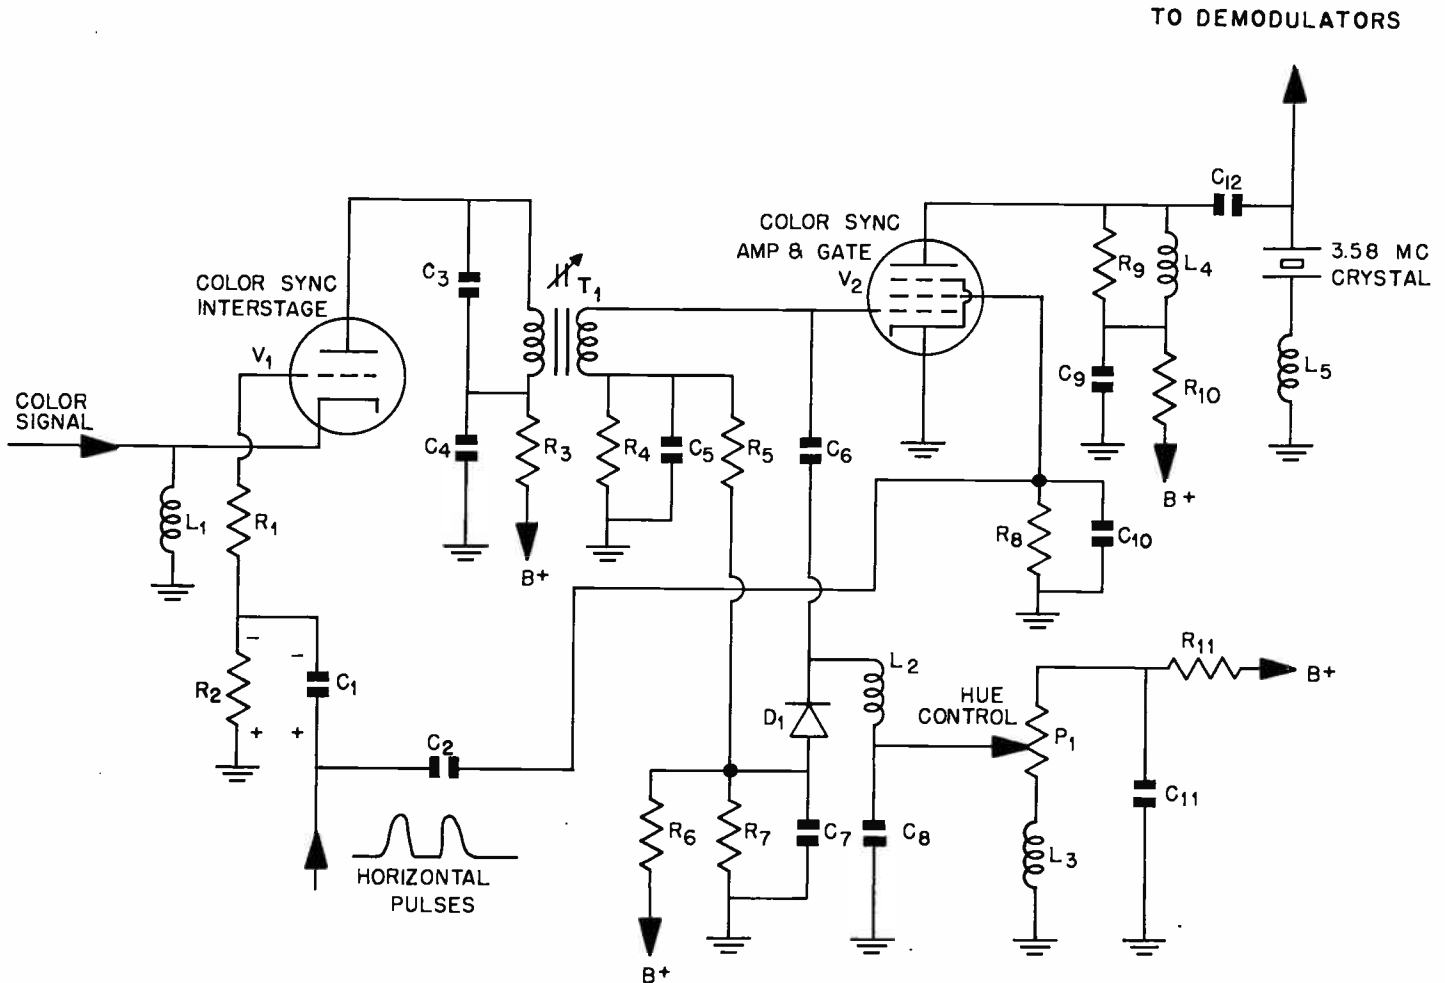

Fig. 21. Two-stage color burst amplifier and ringing circuit supplies the continuous wave signal to the demodulators.
A schematic diagram of a two-stage color burst amplifier is shown in Fig. 21. Notice that in this circuit the complete color signal is fed to the cathode of the first stage, V_1 . At the same time, strong positive horizontal pulses are fed through C_1 and R_1 to the grid of V_1 . These positive pulses, which occur during the retrace interval, will cause the grid of the tube to draw a high current and charge the capacitor C_1 with the polarity shown. C_1 will discharge through R_2 developing a voltage across the resistor with the polarity shown. The high negative voltage developed across R_2 will keep the tube cut off. The only time the tube will conduct is when the high amplitude horizontal pulses are present. Since this occurs during the horizontal retrace interval and this is when the color burst signal is transmitted, the color signal is the only part of the color signal that will get through the amplifier stage.
- (x) What is the purpose of the network consisting of C_6 , L_2 , P_1 , L_3 , C_8 , C_7 and D_1 in the circuit shown in Fig. 21?
Fig. 21 is an example of a ringing circuit used in a color TV receiver. You will remember that the color video signal is developed across L_1 and applied to the cathode of V_1 . The gated color sync interstage, V_1 , is normally biased cutoff by grid leak bias. Large positive horizontal pulses are coupled through C_1 and R_1 to the grid of V_1 , bringing the tube into conduction during the horizontal retrace interval when the color burst is present on the cathode.
The hue control, located in the grid circuit of V_2 in Fig. 21, permits small changes in the phase of the color burst signal applied to the control grid of V_2 . Changing the setting of the hue control shifts the phase of the 3.58-mc burst signal applied to the grid of V_2 . This phase-shifted signal is amplified by V_2 and coupled through C_{12} to the crystal ringing circuit. In this way the phase of the signal from the ringing circuit is shifted by the setting of the hue control. This in turn sets the demodulation axis of the demodulator.